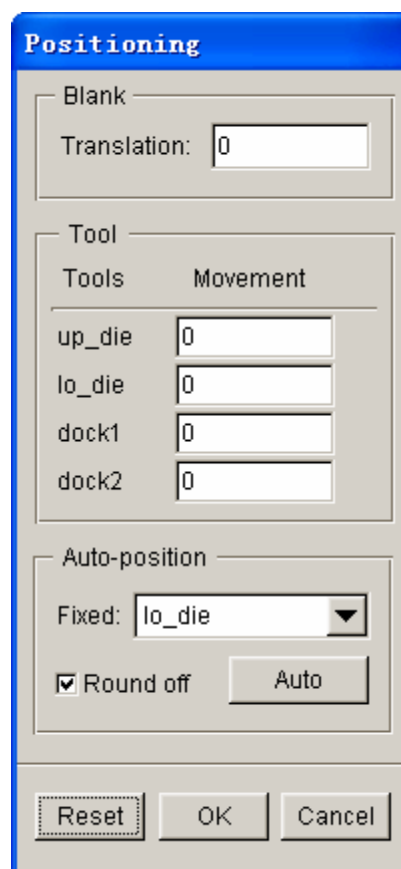

Figure 3.28 Before tools positioning
1. Click **Positioning...** button located at the lower right corner of tool definition interface to display the POSITION dialog box illustrated in Figure 3.28. Alternatively, you can select **Tools→Positioning...** from the menu bar.